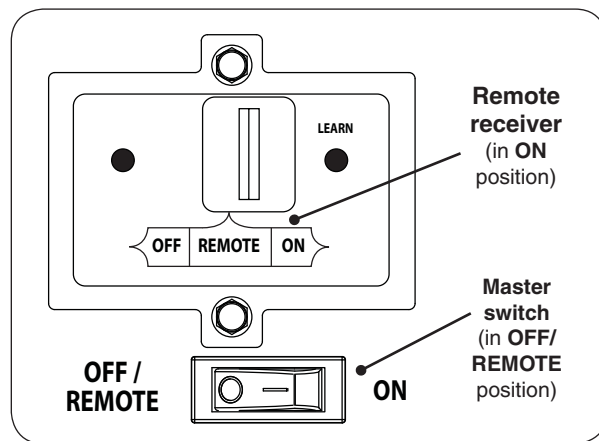

Fig. 41-1 Control panel detail
1. Ensure the master switch is in the **OFF/REMOTE** position (see Fig. 41-1).
3. Locate the 3-position switch on the remote receiver (see Fig. 41-1), and slide the switch to the **ON** position.
The master switch should remain in the **OFF/REMOTE** position to allow for remote system operation (see Fig. 41-1).